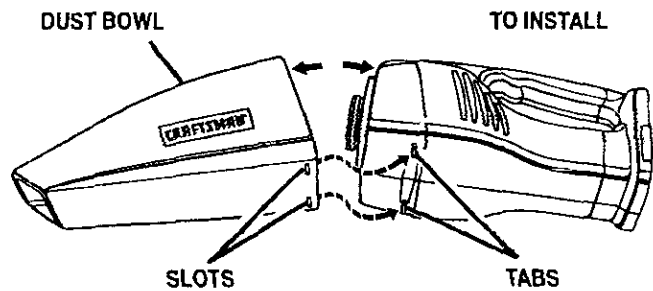

Fig. 8
See Figure 8.
- Position the two sections as shown in Figure 8. Align slots on bottom of dust bowl with tabs on bottom of motor housing then snap the two sections together.